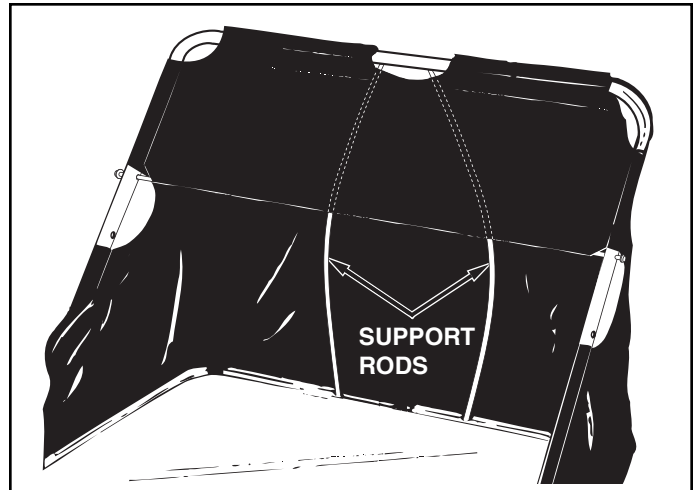

FIGURE 17
- Assemble the two hopper support rods as shown in figure 17. Place the ends of the rods into the upper and lower hopper tubes, bending the rod just enough to fit into the holes in the tubes.